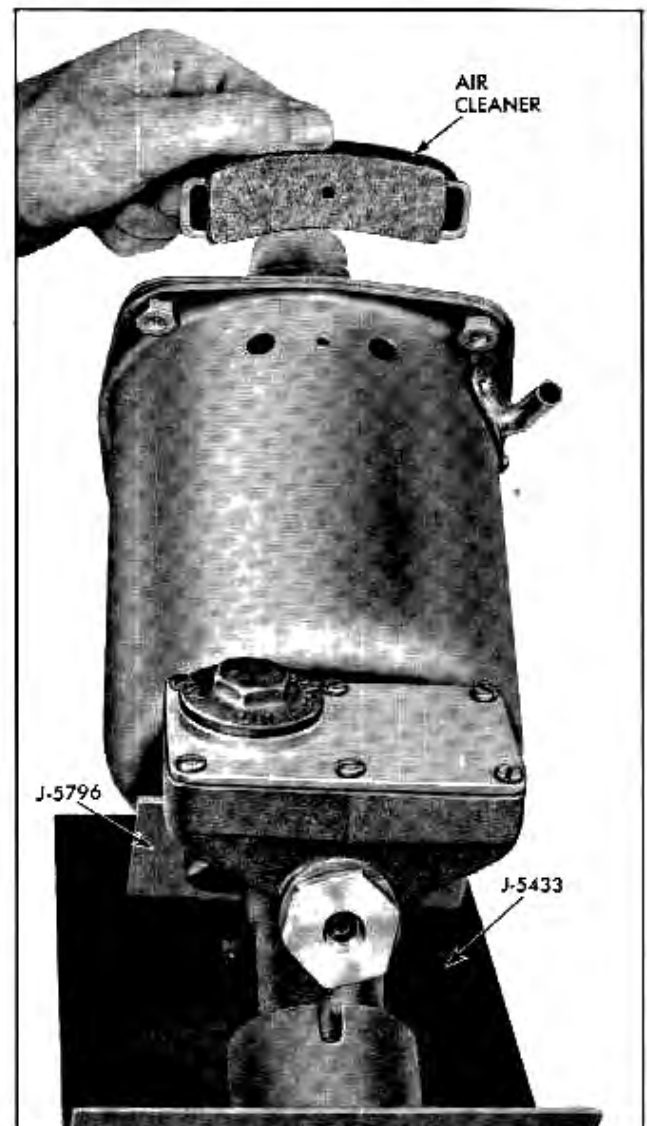

Fig. 5-40 Removing or Replacing Air Cleaner Assembly
The Moraine Power brake unit can be identified by the cast iron master cylinder and cast iron filler cap (Fig. 5-40). The Bendix Power brake unit can be identified by the die-cast hydraulic cylinder and pressed steel filler cap (Fig. 5-17) and the thick molded rubber boot.
2. Clamp master cylinder end of unit in vise or mount unit in special holding fixture J-5433 with adapter J-5796 (Fig. 5-40). Remove screw that holds air cleaner unit outside of power cylinder. Removal of the air cleaner unit must precede disassembly of internal parts to avoid damage to large leather piston cup inside power cylinder housing.